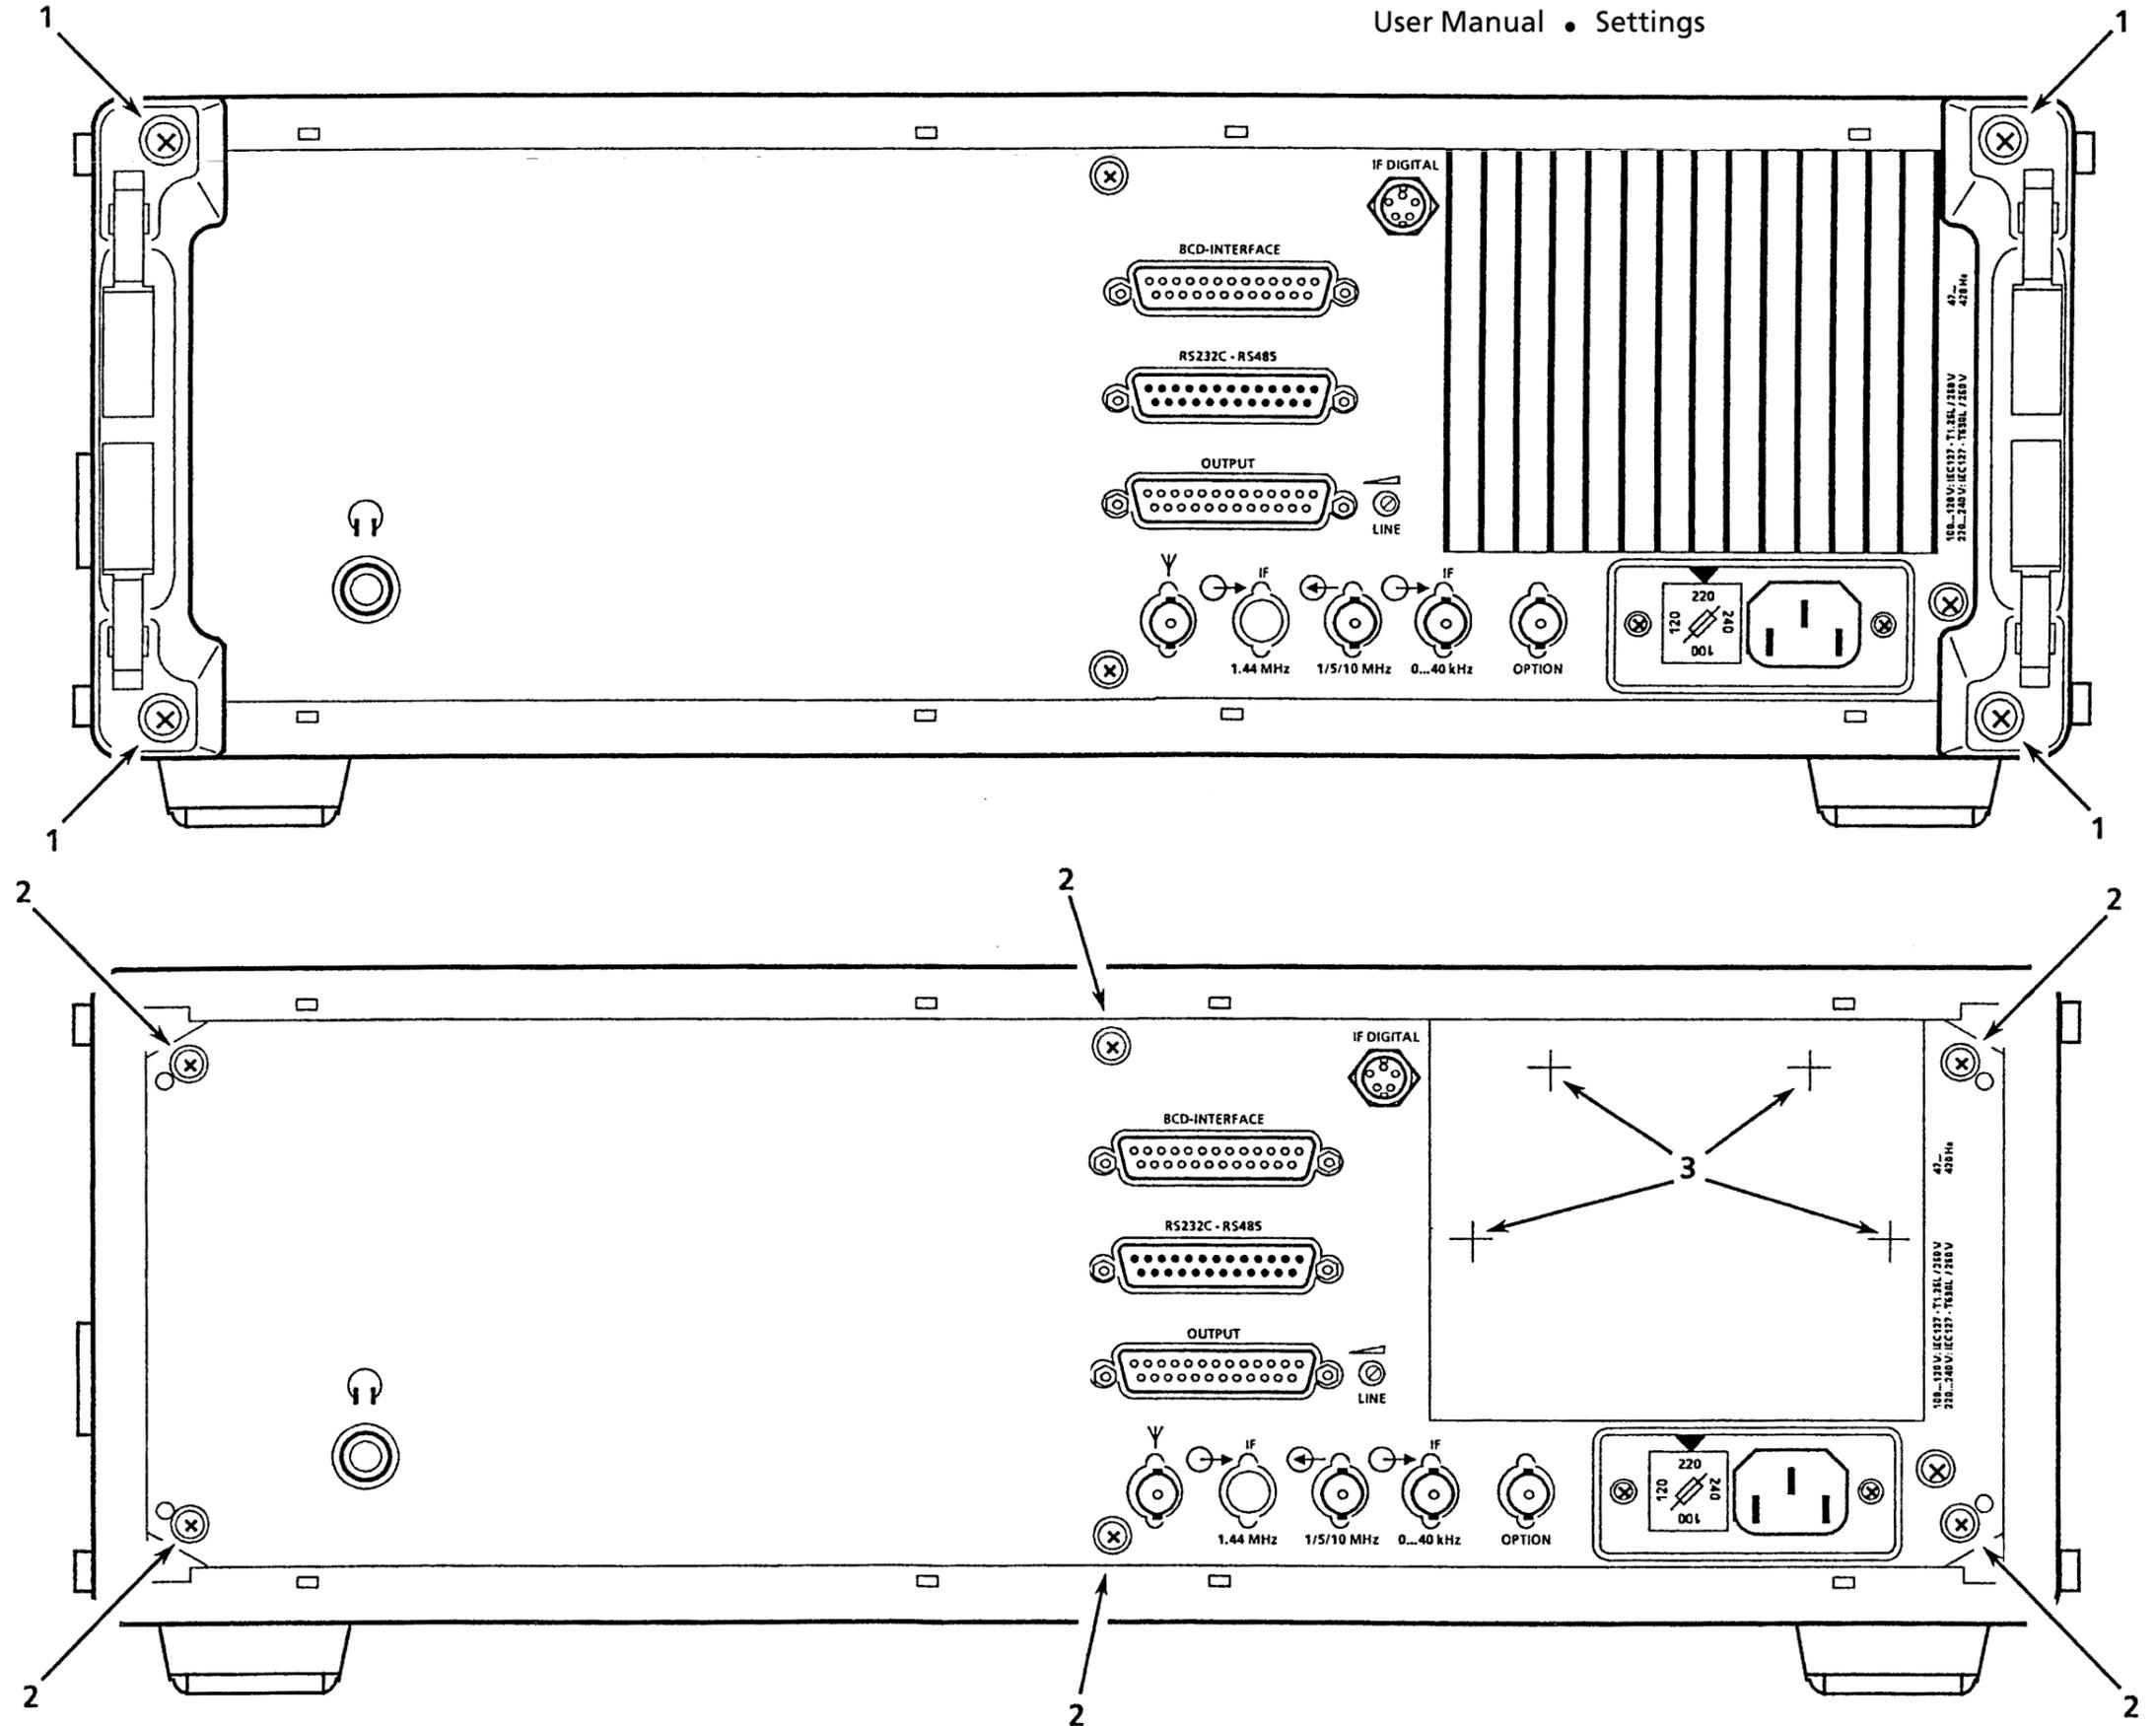

Fig. A1.4 Location of Screws to Be Undone on Rear (EK 896)
12. Undo four screws (3, Fig. A1.3 (EK 895) or Fig. A1.4 (EK 896)) and remove together with curved washers and other washers fixing the TTY line current source and the heat sink to the rear.
2. Undo and remove four screws (1, Fig. A1.3 (EK 895) or Fig. A1.4 (EK 896)) fixing the rear panel stands.